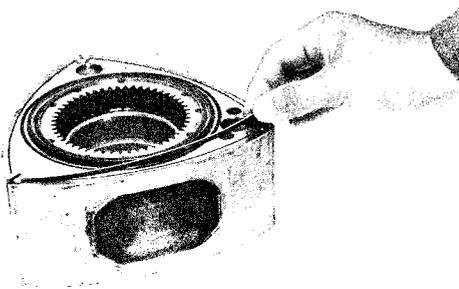

Fig. 1-56 Installing side seal
4. Fit the side seal springs and side seals into their respective grooves, as shown in Fig. 1-56.